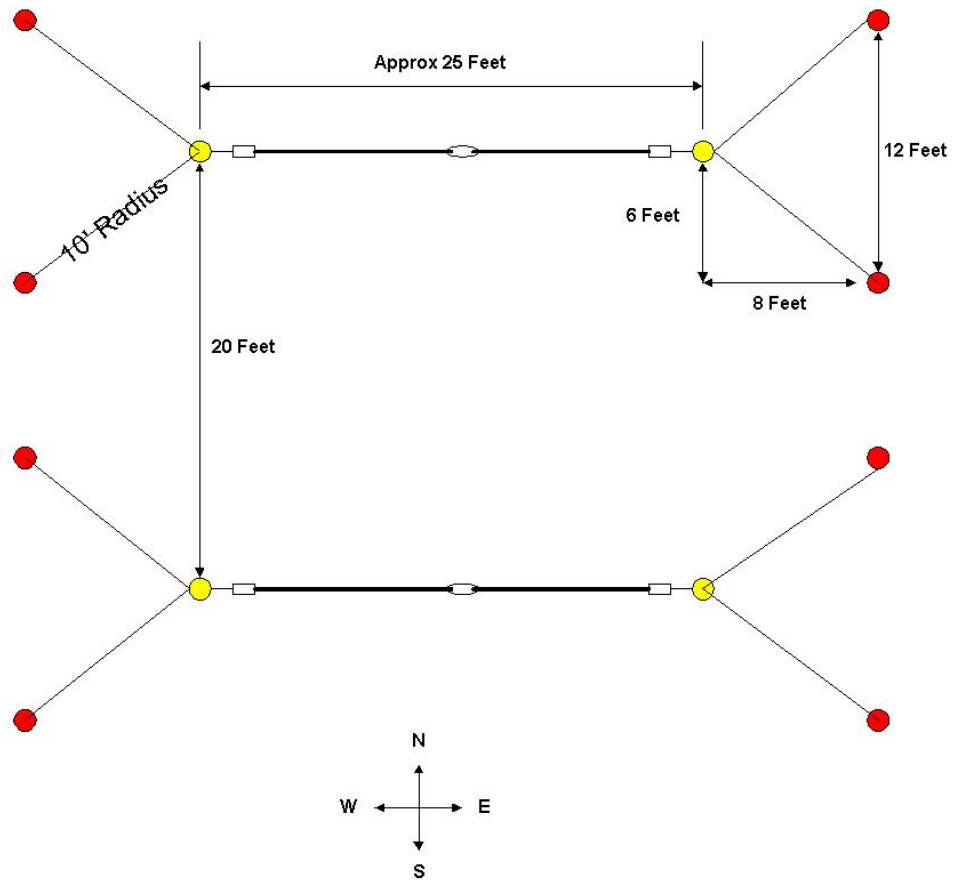

Figure 7.1 – Antenna field layout for masts and guy stakes.
Before the antenna masts can be assembled and raised, you must layout the antenna field. Study Figure 7.1 and note that the antenna wires run in an East-West direction. Also note the mast locations and the guy spike locations. Proceed as follows.
Step 1. (Refer to Figures 7.1 – 7.3)